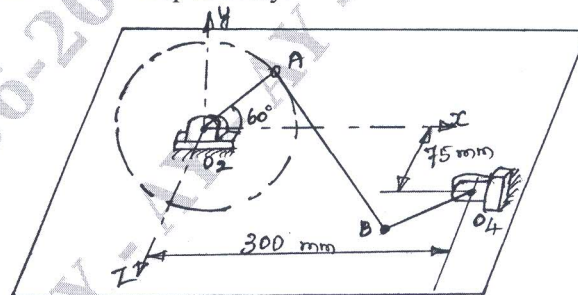

Fig.Q.9
- 9 The angular velocity of link-2 of the four-link RGGR mechanism is shown in Fig.Q.9. The length of crank = 100mm, connecting rod length = 375mm and the follower link = 250mm. If the angular velocity of the crank is  $40 \text{ k rad/sec}$  and is constant, find the angular velocities and accelerations of link 3 and 4 respectively. (16 Marks)